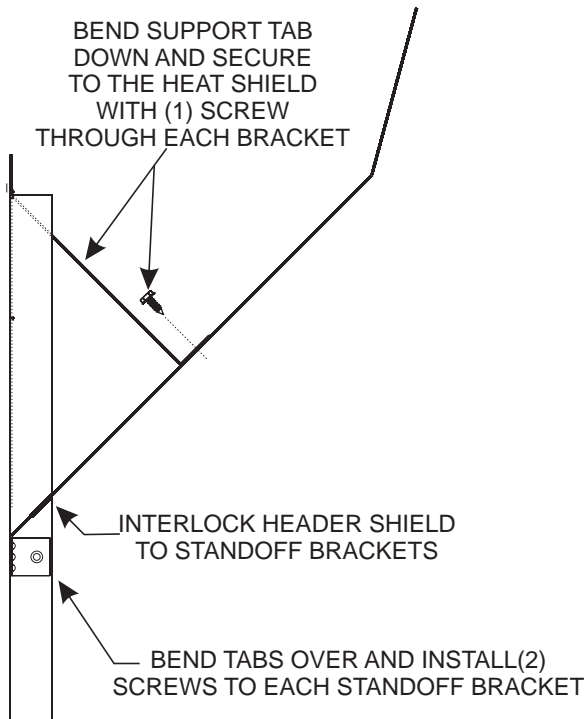

Figure 26
1. The Header Shield and (3) Top Standoffs are shipped with the fireplace. Pre-assemble the Header Shield to the Top Standoff brackets, before installing to the top of the fireplace and framing header. **See Figures 26, 27 and 28.**